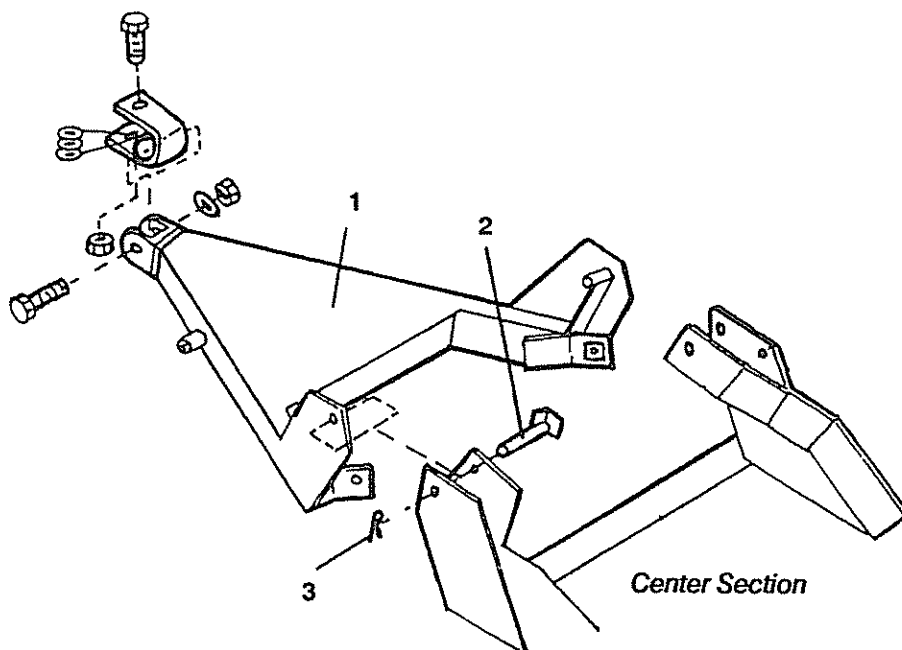

FIGURE 1. Tongue Assembly
2. Install Tongue (#1) pivot tubes into clevis type openings at front of Center Section. Insert Pivot Pin (#2) through inside clevis flat, pivot tube, and then outside clevis flat. Rotate head of pin so it locks over end of inside flat. Install cotter pin (#3). Figure 1.